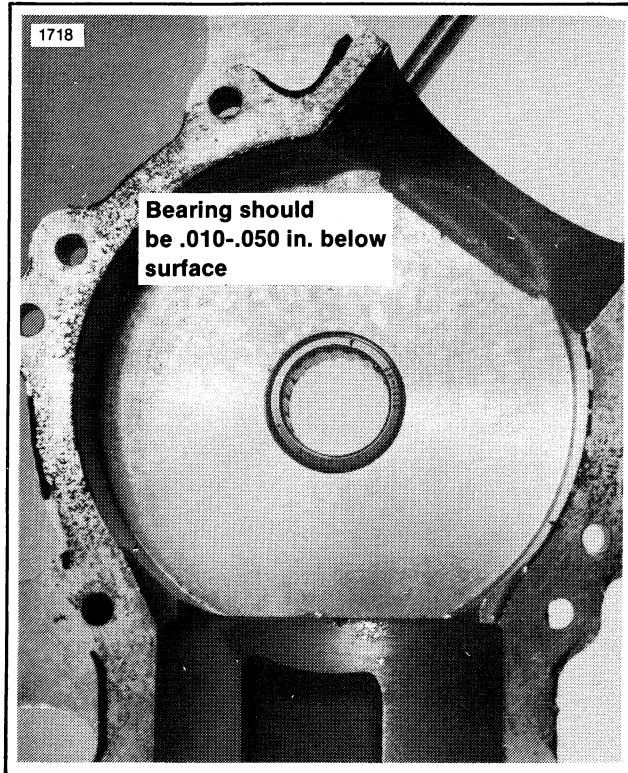

Figure 5-36. Install Crankcase Needle Bearing
13. See Figure 5-36. Install a new needle bearing into the case left half. Bearing should be pressed from inside the case so it is .010-.050 in. below the surface.